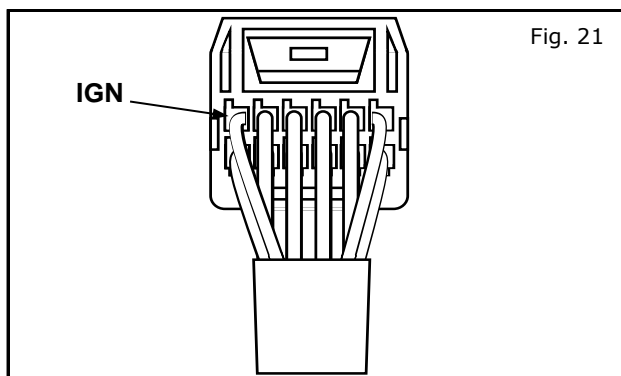

Fig. 21
**Pin location in Fig. 21 is referenced looking into face of connector**